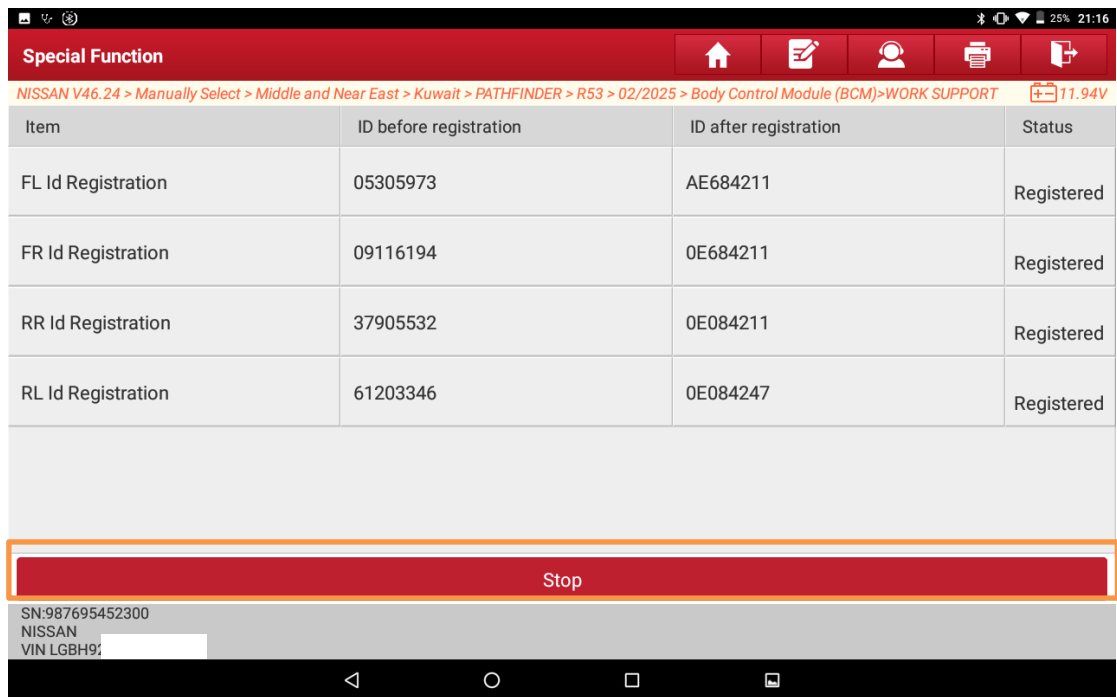

Figure 20
13. After confirming that all tire pressure sensor IDs are registered and that the registered IDs correspond exactly to the IDs printed on the sensor hardware, click "Stop" (Figure 20) to return to the [WORK SUPPORT] menu interface of the BCM.